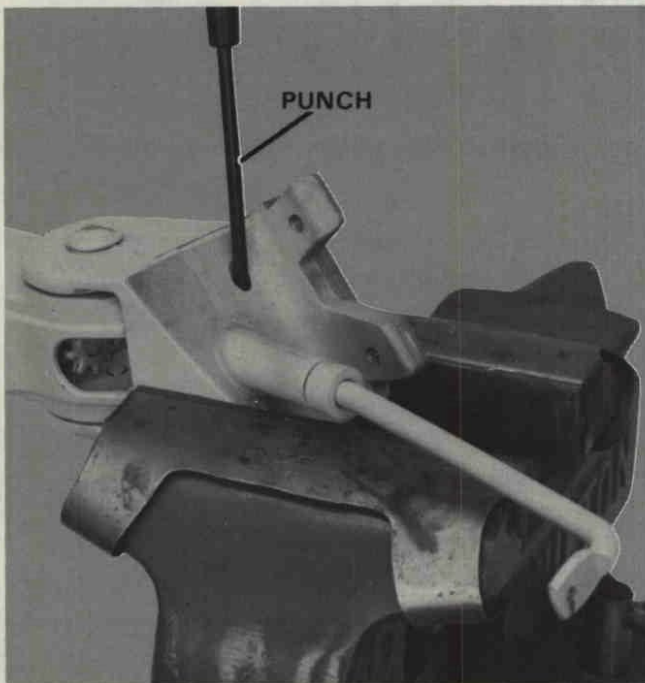

Figure 6. Removing Pivot Pin.
- E. Remove two (2) large nylon washers from pivot joints.
7. Remove two (2) screws and lockwashers securing steering handle bracket to steering arm bracket, and remove two (2) nylon bearings from bore of bracket.
- A. Drive out steering handle pivot pin. Figure 6.